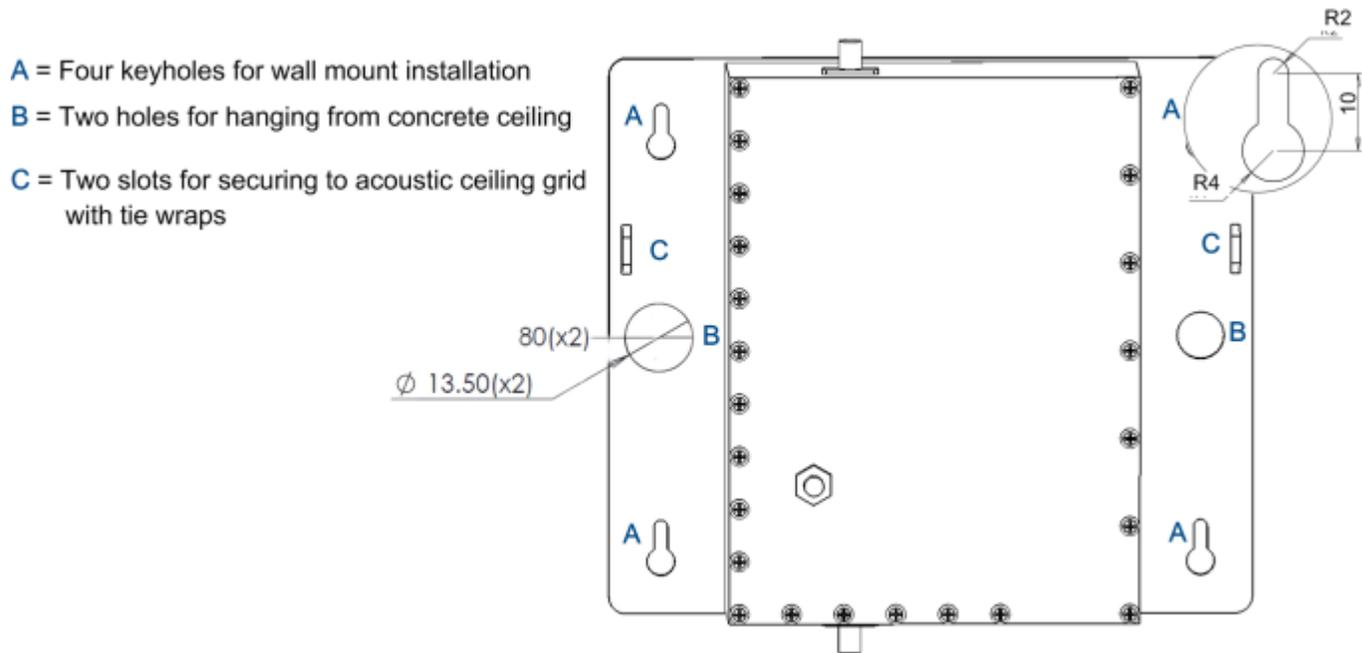
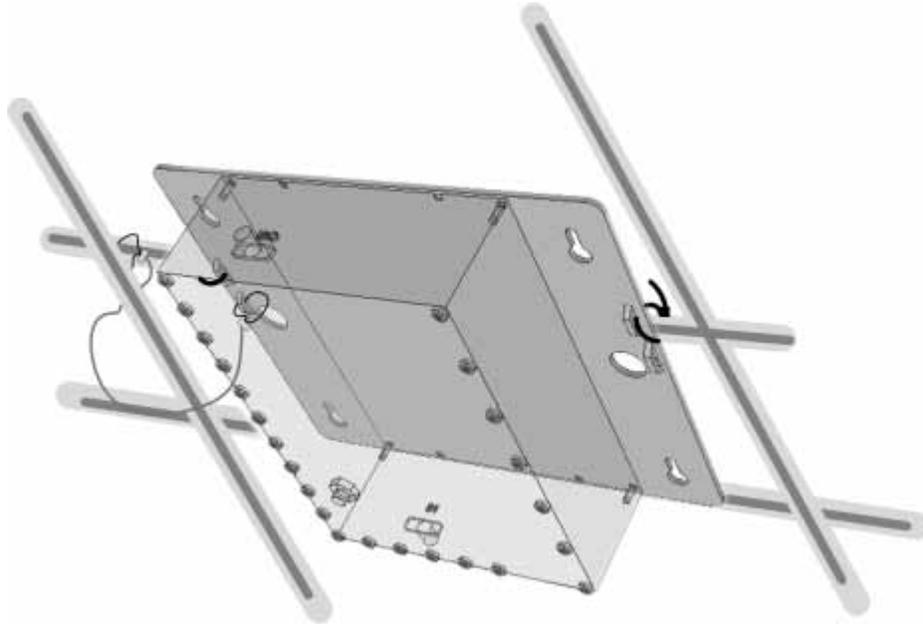

Figure 5-73. Cavity Filter Dimensions and Mounting Holes
Figure 5-75. Illustration of Cavity Filter Mounted on Acoustic Ceiling Grid
- The Cavity Filter mounting bracket supports wall/ceiling/acoustic ceiling installations. See Figure 5-73.
1. Using the two holes (Item B in Figure 5-73) as a guide, mark the location of the holes to be drilled in the ceiling.
In acoustic ceiling mount installations, the Cavity Filter can be fastened to the grid by slipping tie wraps through slits on the bracket (Item C in Figure 5-73) and securing the assembly to the grid with the provided safety cable. Refer to Figure 5-75.
1. Using the four key holes (Item A in Figure 5-73) as a guide, mark the location of the holes to be drilled in the wall.